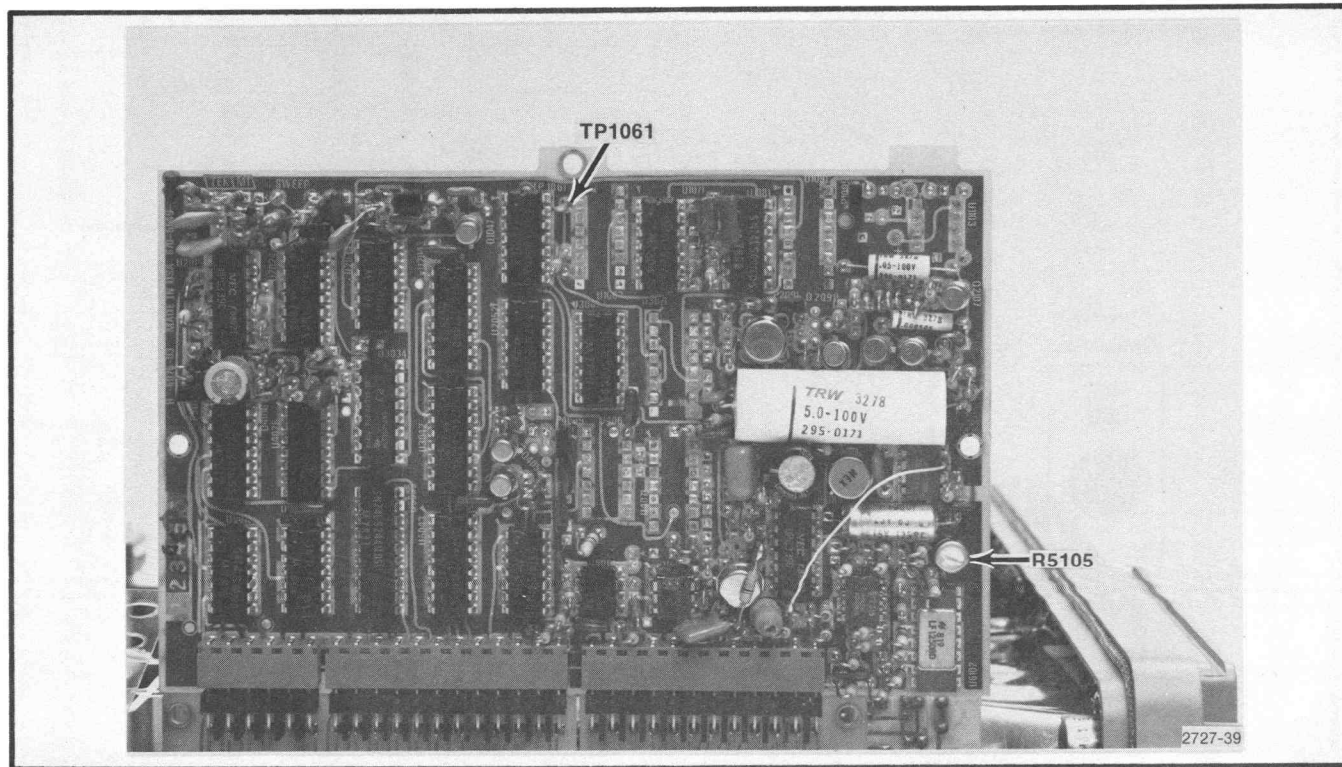

Fig. 3-29. Location of timing adjustment R5105 and TP1061 on sweep board.
c. Adjust Sweep Timing, R5105 (see Fig. 3-29), for 1 marker/division. (Use POSITION adjustments to align markers.)